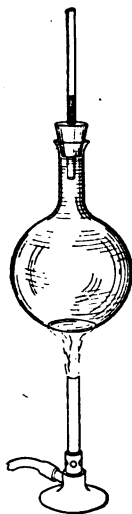

FIG. 5
11. Expansion of Liquids. The expansion of liquids may readily be shown by fitting a glass tube into a hole in the stopper of a flask and filling the flask and part of the tube with water (Fig. 5). On being heated, the liquid will rise in the tube. Different liquids, such as alcohol and mercury, may also be used, when it will be found that they do not expand equally, with the same temperature rise.